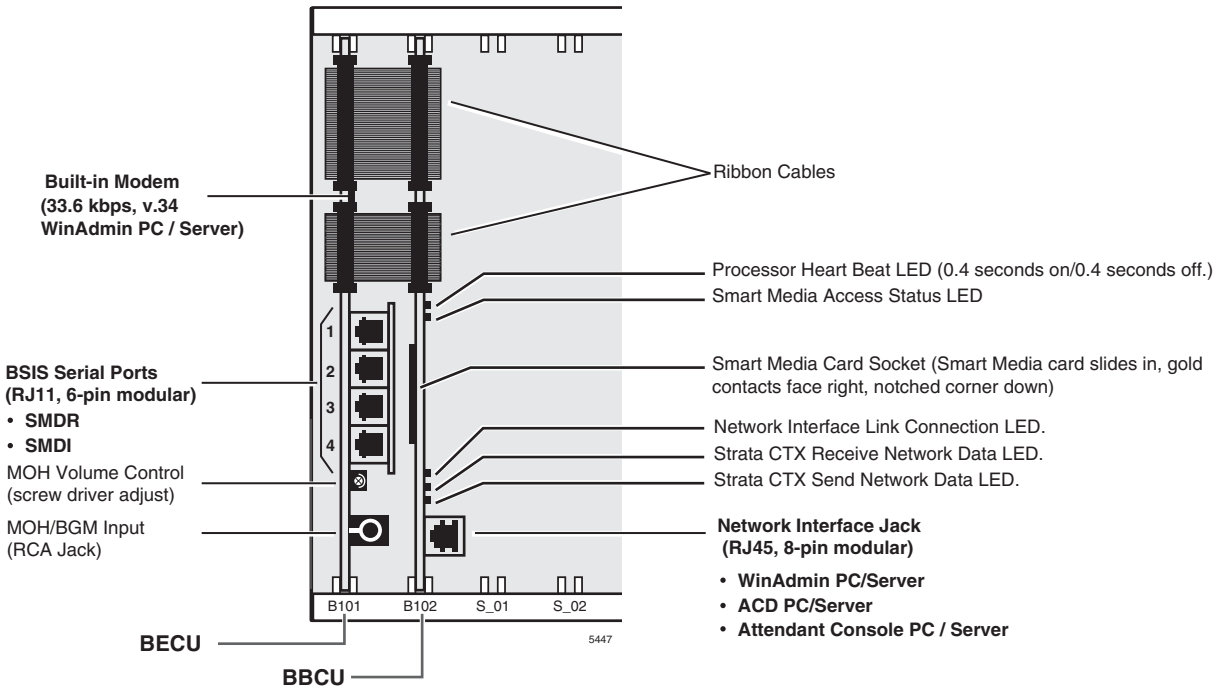

Figure 12-1 Application PC/Server Interfaces
Application PCs and/or servers are connected to the Strata CTX system via a Network Interface jack, RS-232 serial ports and/or a Strata CTX modem depending on the application. These interfaces are provided by the CTX system processor. The network jack and built-in modem are standard equipment on the CTX670 processor and option PCBs on the CTX100 processor. The BSIS four-port serial interface is an optional PCB that mounts on the CTX100 or CTX670 processor (see Figure 12-1).
- **CTX WinAdmin, Strategy VM Proprietary Integration, Attendant Console and ACD Network Interface** – These application PC/servers equipped with a standard Network Interface Card (NIC) connect to the Strata CTX network jack. One network interface jack is standard on the Strata CTX670, BBCB processor PCB. The AETS option is required on the CTX100 ACTU processor. This is the only network jack interface on the Strata CTX (see Figures 12-1~12-4).